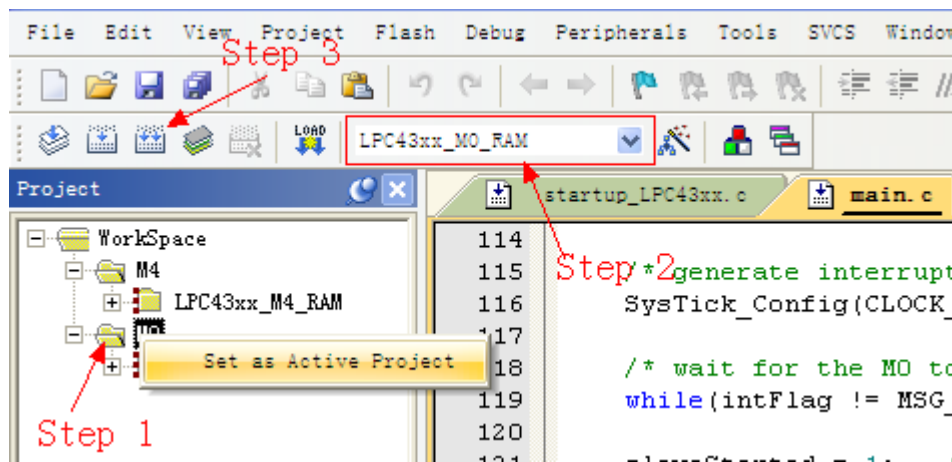

Figure 3-23
(1) Choose “M0” in “Set as Active Project” and “LPC43xx\_M0\_RAM”, and then recompile the program. Refer to figure 3-23: